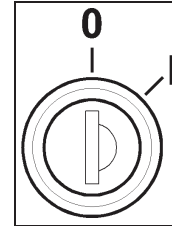

Fig. 26
- Insert the key in the key switch (Fig. 26).